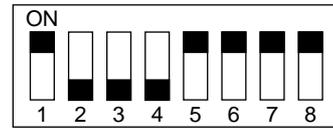

Figure 4-304
- 3) Set SW103 on the finisher controller PCB as shown in Figure 4-304.